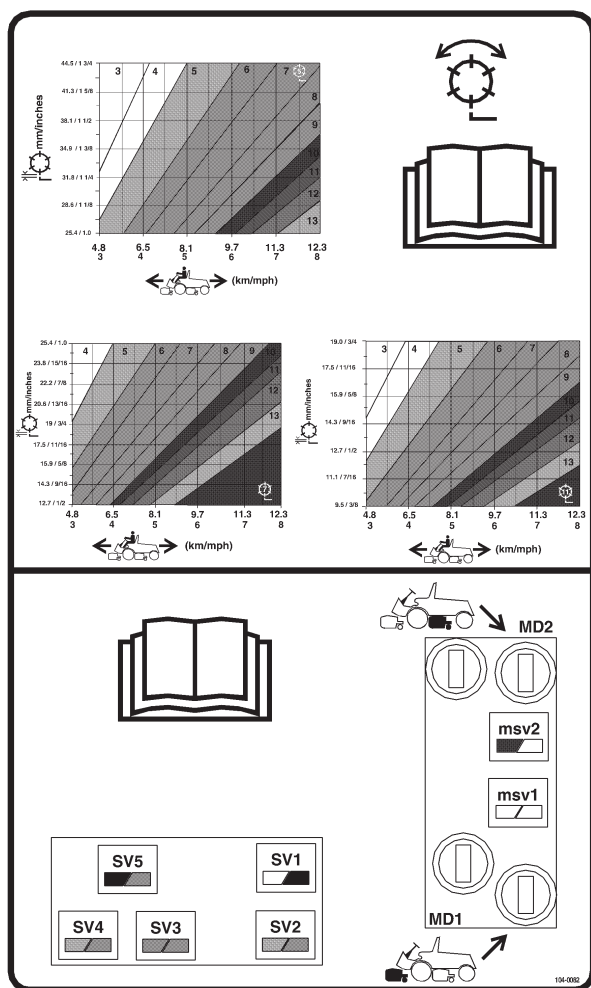

Figure 27
3. Using the appropriate graph (See figure 27) for 5, 7 or 11 blade cutting units, determine the proper reel speed setting.